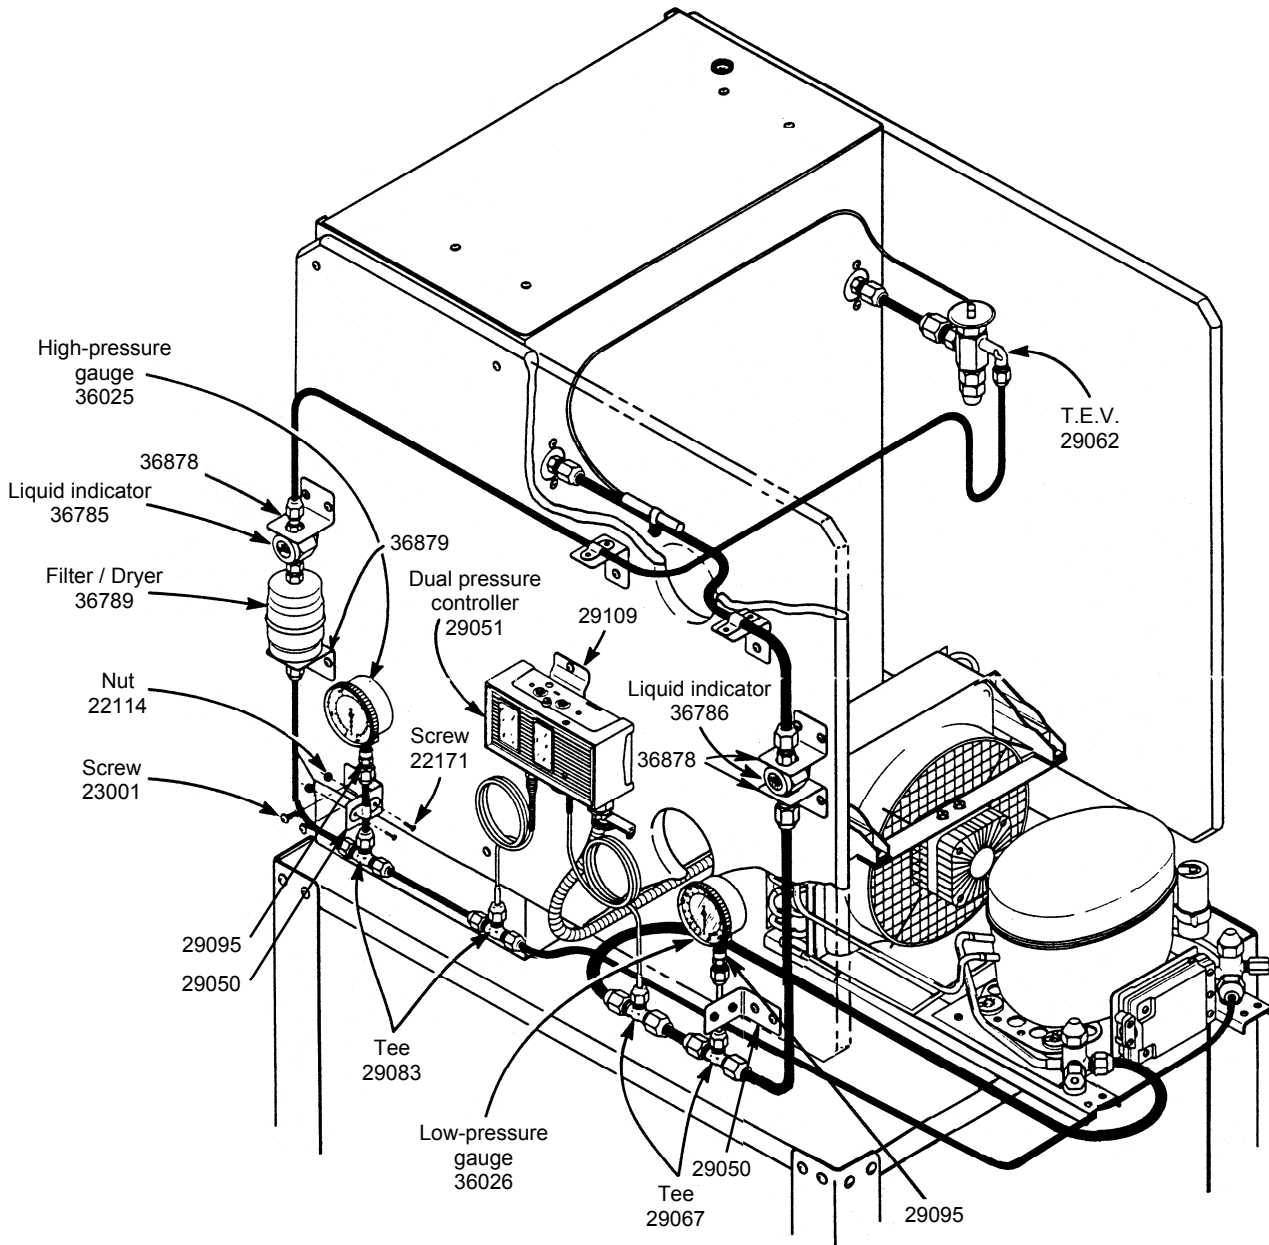
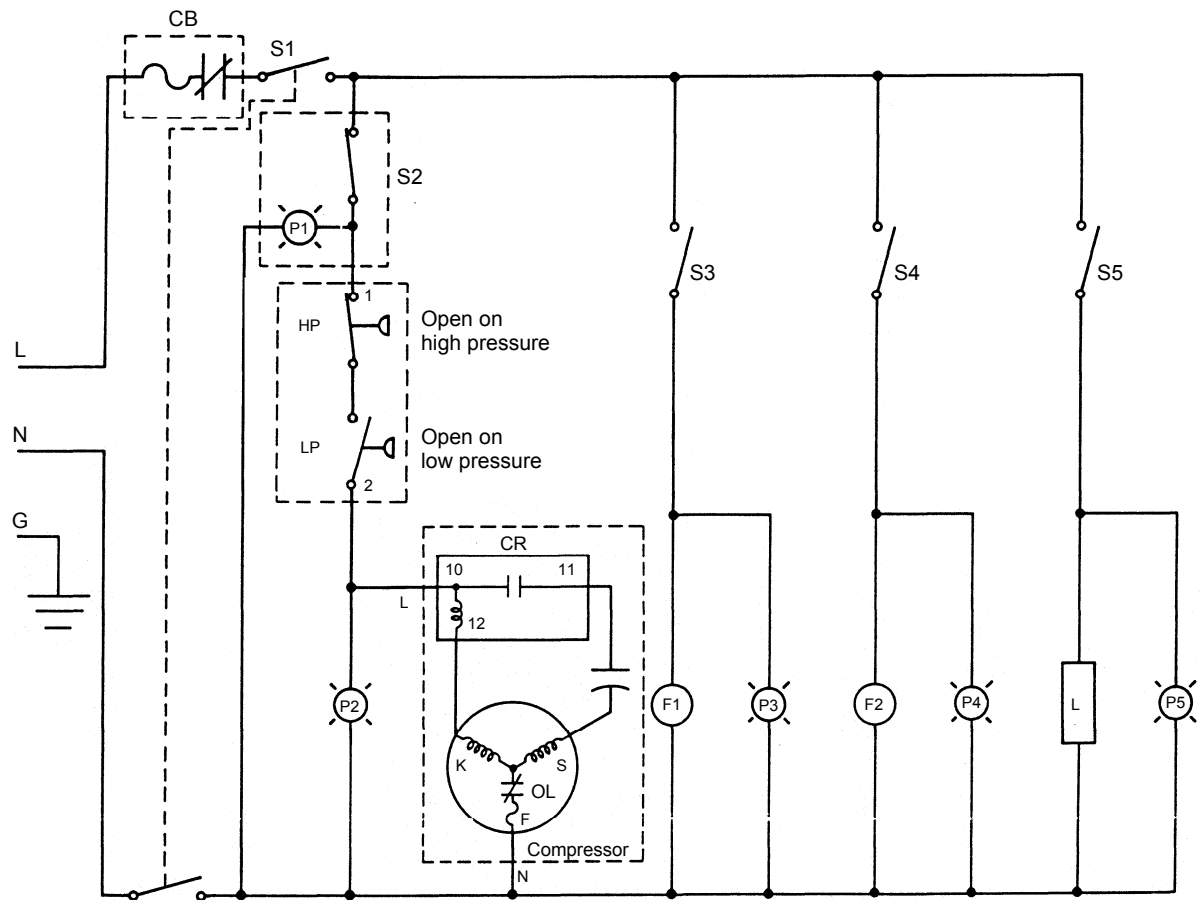
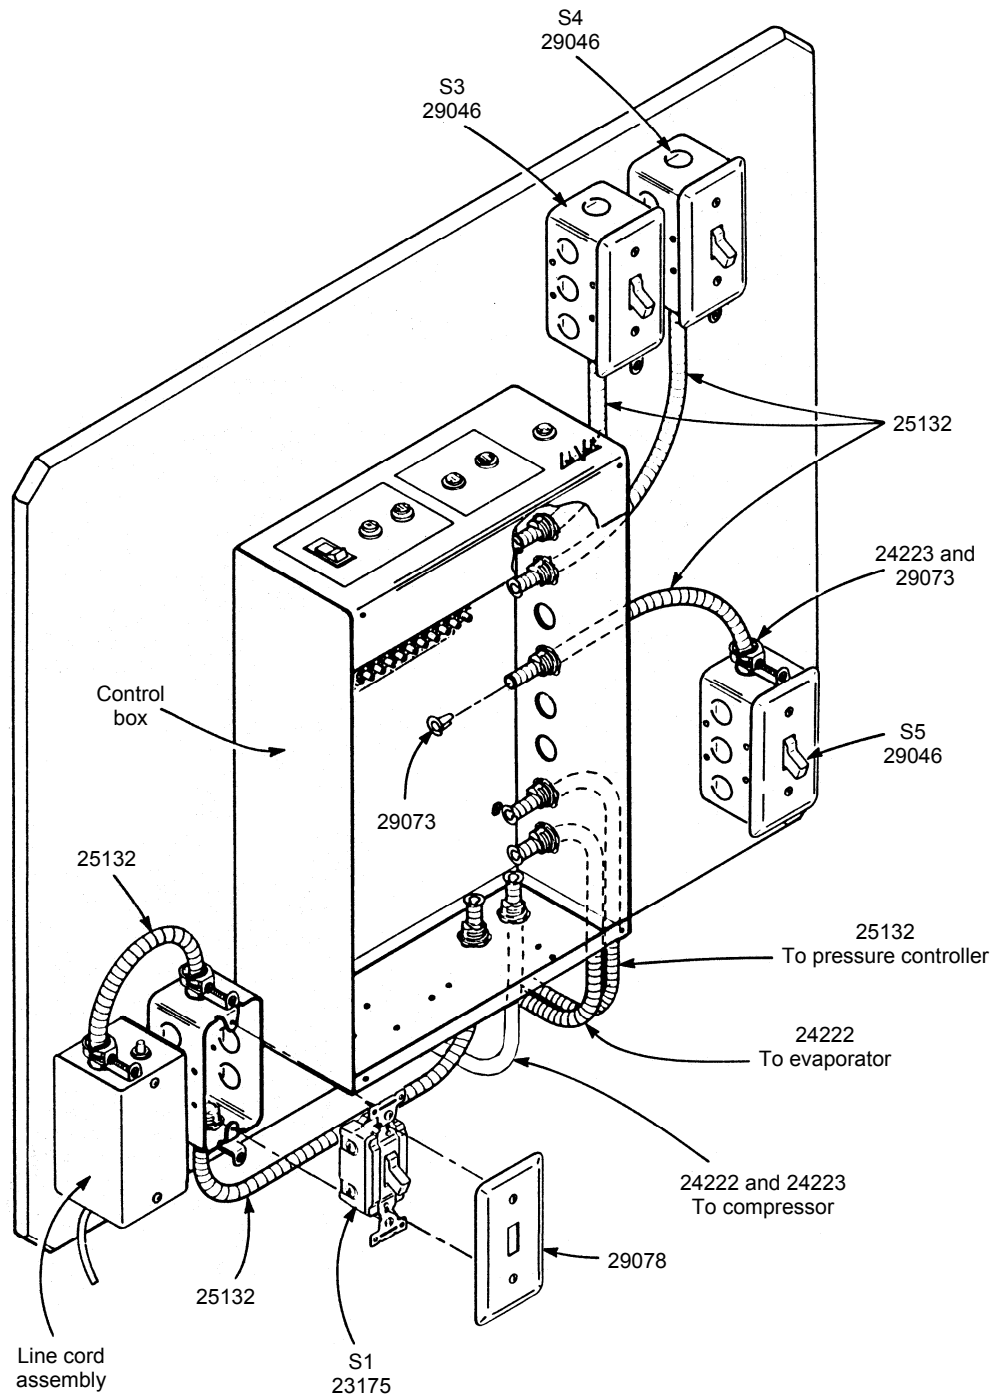

Figure 2-13. Suggested layout.
Figure 2-14. Electrical schematic diagram.
Figure 2-15. Suggested layout for switches.
1. Modify the control circuit of the previous exercise to include the contacts of the pressure controller. Refer to Figure 2-13, Figure 2-14, and Figure 2-15. Rewire the control circuit to include the change. The heat load and evaporator wiring is shown in Figure 1-8.